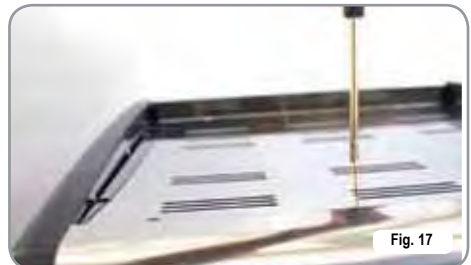

Fig. 17
- unscrew the central screw in the upper panel (Fig. 17);